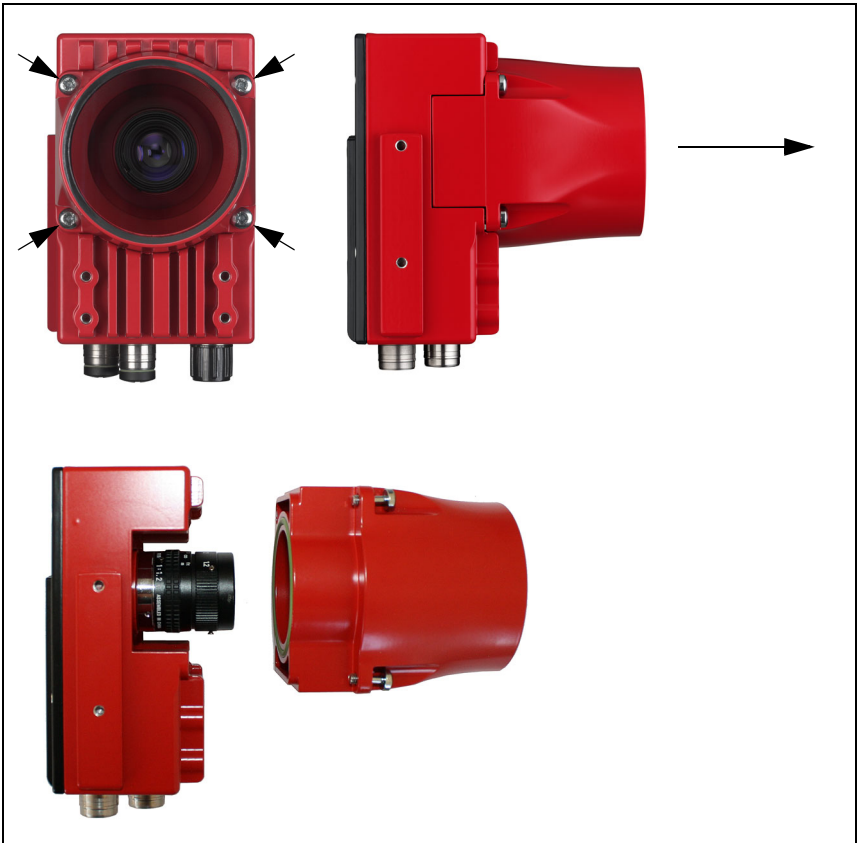

Figure 4.8: Lens replacement for C-mount devices
- ↪ First loosen the 4 Phillips screws on the lens cover and remove the cover to the front as shown in figure 4.8.